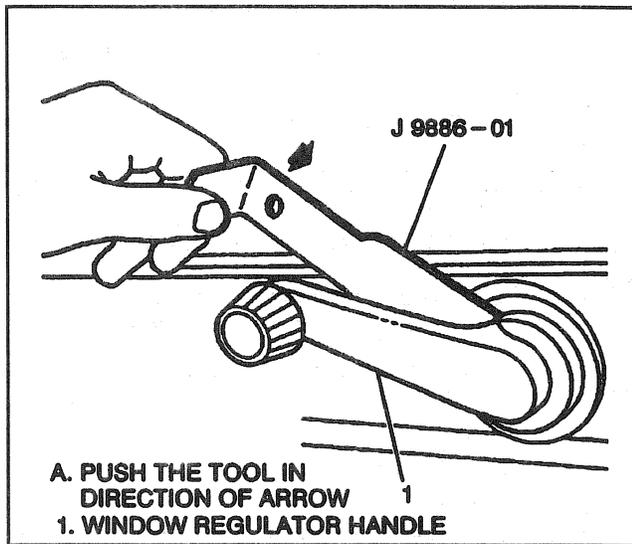

Figure 50—Window Regulator Handle Retaining Clip Removal
↔ Remove or Disconnect (Figures 50 and 51)
2. Bearing plate (Figure 50).
↔ Install or Connect (Figures 50 and 51)
1. Bearing plate to door (Figure 50).